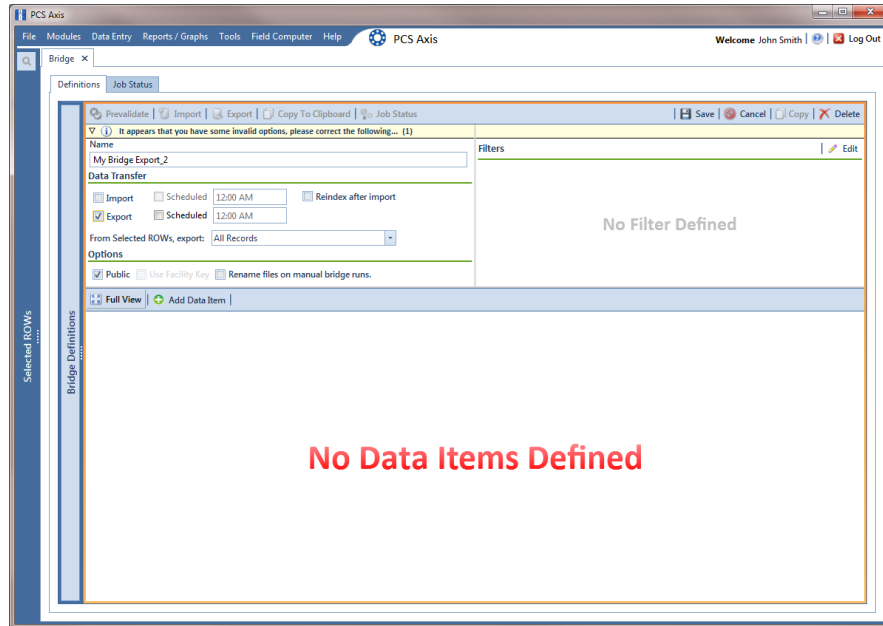

Figure 10-28. Bridge Export Definition
- 4 Type a unique name for the definition in the **Name** field (Figure 10-28, page 516).
- 5 To set properties in the *Data Transfer* group box, follow these steps (Figure 10-28, page 516):
- 6 To set properties in the *Options* group box, follow these steps (Figure 10-28, page 516):